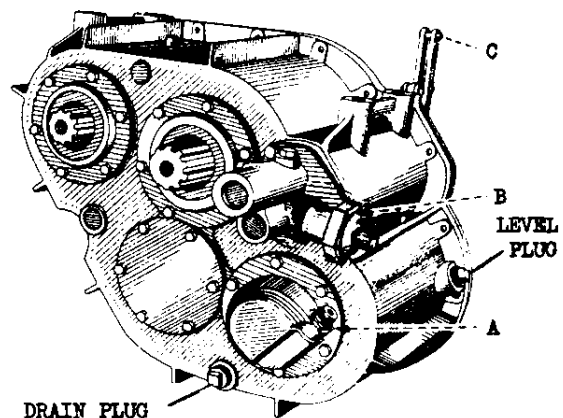

FIG 28 - TRANSFER CASE, OUTPUT SIDE
- a. Disconnect the air line at the gear change lock assembly (item B, fig 28).
- a. Remove the clevis pin (item C, fig 28) and disconnect the control rod.
- b. Disconnect the air line at the gear change lock assembly (item B, fig 28).
- d. Disconnect the speedometer drive cable from the speedometer drive pinion sleeve (item A, fig 28) located at the rear end of the forward drive shaft.
- d. Tighten the four mounting bolts (items 17 and 18) to 150 to 175 ft lb torque.
- e. Install and tighten the stay rod bolt (item 16) to 135 to 150 ft lb torque.
- f. Ensure that retainers (item 8) are properly seated in brackets (item 7), then tighten up the nuts (item 4) until all slack is taken out of the rubbers (item 8), then tighten the nuts one further turn.
- g. Tighten the lock nuts (item 3) finally locking the nuts together, without removing the plain nuts (item 4).
- m. Check oil level in the transfer case to the level plug (see fig 28).
- (1) 3/8 bolts: 24
- (2) 5/16 bolts: 16
- (3) 1/4 bolts: 8 to 10
- (4) Stay rod bolt: 135 to 150
- (5) Case to crossmember mounting bolts: 150 to 175
- (6) Universal joint bolts: 40 to 44
- (7) PTO ballcrank bolt: 33 to 37
- (8) Control lever shaft nut: 80 to 90
- (9) Stay rod bracket bolt to siderail: 28 to 31.